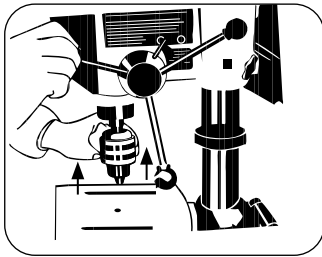

FIGURE 7.7
- Fit the spindle with the chuck, by pressing upwards so that the chuck couples with the spindle (Figure 7.7).